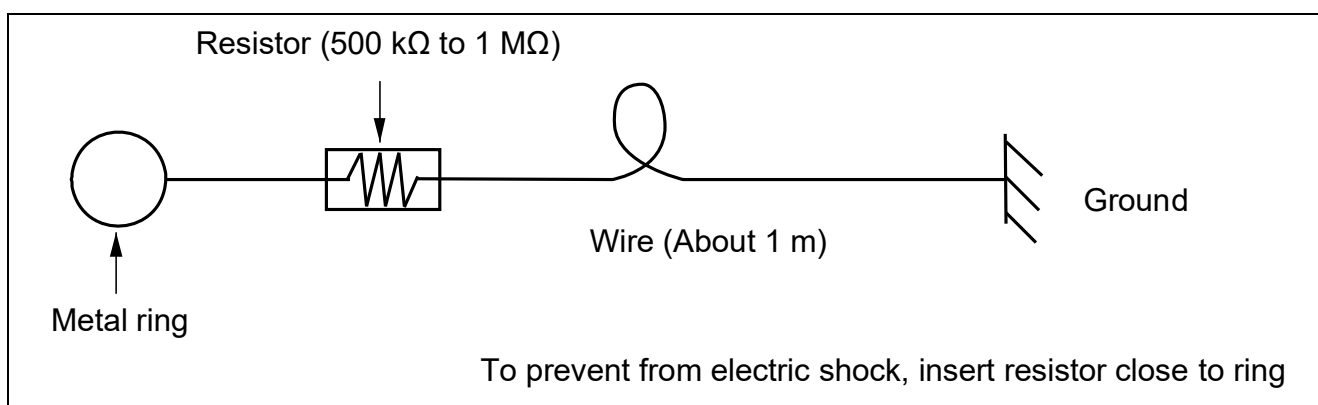

Figure 15 Example of body grounding
(1) Please be grounded when handling the semiconductor devices. An example of grounding is shown in figure 15.